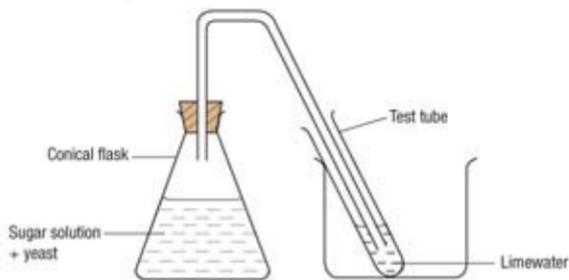

Figure 1
1. Figure 1 shows an experiment to study the preparation of a type of carbon compound.
- (a) Name the process in Figure 1.